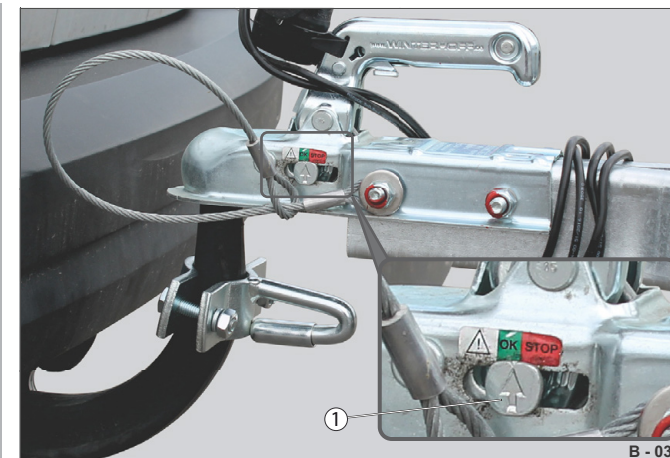

Fig. 7 Example: Optical display on the ball head coupling
- After uncoupling the ball head coupling, check the optical wear / safety display (Fig. 7 /1).
- Check the optical wear / safety display - see page 35 / Fig. 7 .